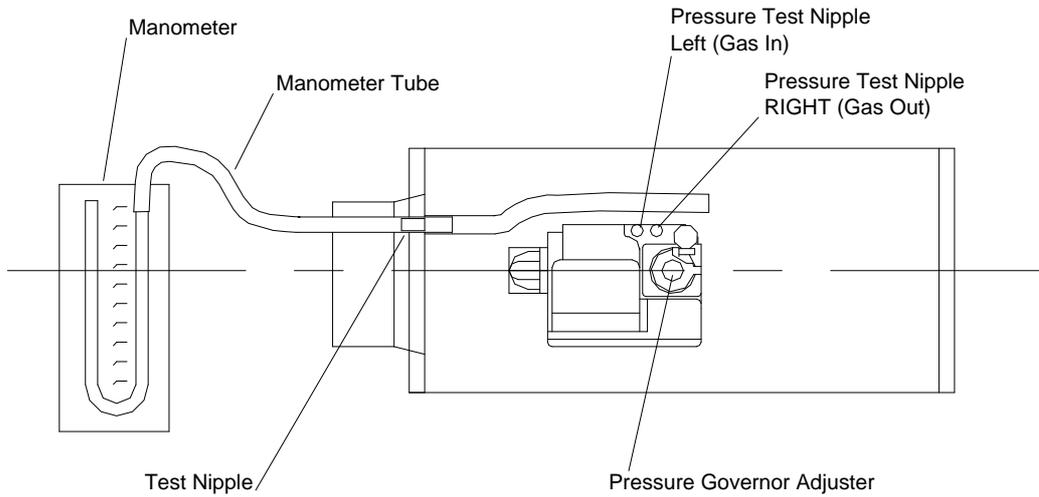

Fig. 29
- 5.1.5 Connect a suitable manometer (0.01 mbar resolution) to the test nipple protruding from the rear panel of the control box (adjacent to the air inlet adaptor). See Fig 29.
- 5.4.2 Connect a manometer to the test nipple protruding from the rear panel of the Control Box (adjacent to the Air Inlet Adaptor) see Fig. 29.
- 5.4.4.1 Unscrew the sealing screw (two turns) of the LEFT (Gas IN) Control Valve test nipple and connect the free end of the manometer tube (permanently connected to the manometer test nipple inside the rear panel of the control box) to this test nipple (See Fig. 29). Close the control box door and secure with the two toggle latches. Check that the electrical supply to the appliance is switched ON.
- 5.4.5.1 Unscrew the sealing screw (two turns) of the RIGHT (Gas OUT) Control Valve test nipple and connect the free end of the manometer tube (permanently connected to the manometer test nipple inside the rear panel of the control box) to this test nipple (See Fig. 29). Close the control box door and secure with the two toggle latches. Check that the electrical supply to the appliance is switched ON.
5.4.5.3 In the event that the burner setting pressure is incorrect, switch off the electricity supply to the zone or system and remove the cap from the integral pressure governor for the Control Valve. Close the control box door and switch on the electricity supply to the zone or system to ignite the burner. Remove the plug from the boss in the upper surface of the control box door and insert a suitable screwdriver through the exposed hole in the box to locate the governor adjusting screw. Adjust the pressure by turning the pressure governor adjusting screw clockwise to increase or anti-clockwise to decrease the burner setting pressure. See Fig. 29.
- 5.7.2 Connect a suitable manometer (0.01mbar resolution) to the test nipple protruding from the rear panel of the Control Box (adjacent to the Air Inlet Adaptor) See Fig. 29.